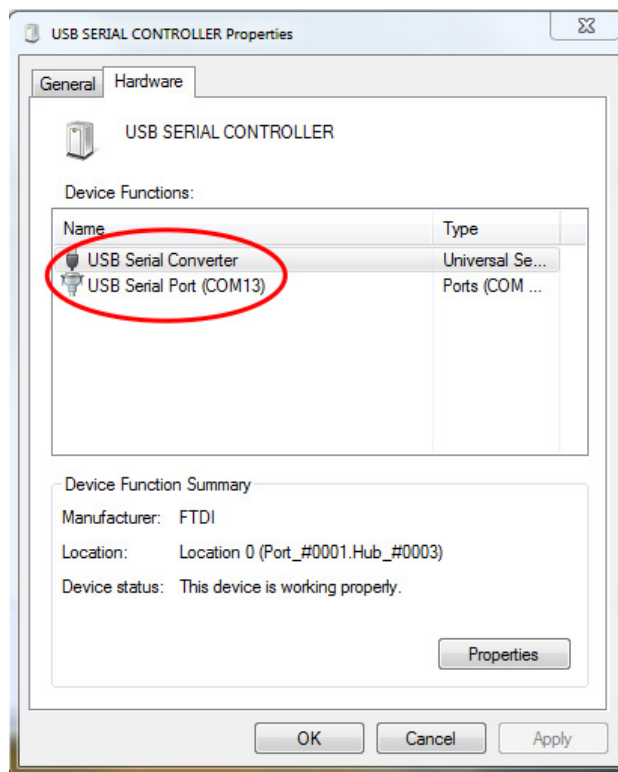

Figure 14. MS Windows Device Properties Window for Linduino
**Note 3:** COM port selection for the Arduino software is something of an art. In MS Windows, the simplest way to determine for certain which COM port is associated with your Linduino is to open the Device Manager and look for the “USB SERIAL CONTROLLER” (not the “LTC DC1613A”). Clicking “Properties” should bring up a window containing information about the COM port that it is using (Figure 14). Of course, you can always use trial and error until you find the correct COM port in the list, which may be a shortcut.